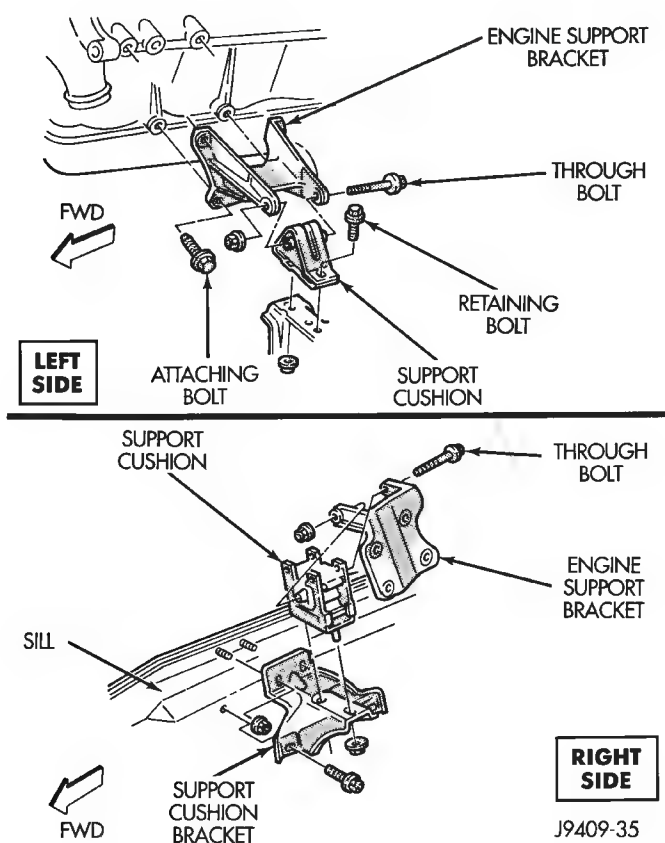
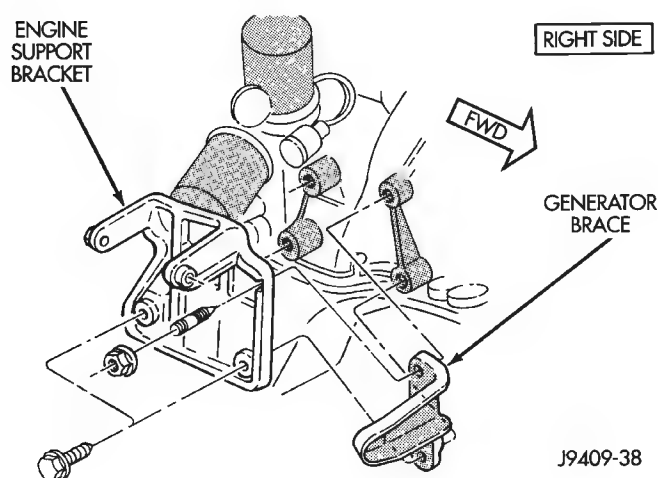

Fig. 6 Front Mounts—XJ Vehicles
Fig. 7 Engine Support Bracket—Right Side
- (1) Disconnect negative cable from battery.
- (2) Raise the vehicle.
- (3) Support the engine.
- (4) Remove through bolt nut (Fig. 6). DO NOT remove the through bolt.
- (5) Remove the retaining bolts and nuts from the support cushions (Fig. 6).
- (6) Remove the through bolt.
- (7) Remove the support cushions.
- (1) If the engine support bracket was removed, position the LEFT bracket (Fig. 6) and the RIGHT bracket with generator brace (Fig. 7) onto the cylinder block. Install the bolts and stud nuts.
(a) RIGHT SIDE (Fig. 7)—Tighten the bolts to 61 N·m (45 ft. lbs.) torque. Tighten the stud nuts to 46 N·m (34 ft. lbs.) torque.
(b) LEFT SIDE (Fig. 6)—Tighten the bolts to 61 N·m (45 ft. lbs.) torque.
- (2) If the support cushion brackets were removed, position the brackets onto the lower front sill (Figs. 6 and 8). Install the bolts and stud nuts. Tighten the bolts to 54 N·m (40 ft. lbs.) torque and the stud nuts to 41 N·m (30 ft. lbs.) torque.
- (3) Place the support cushions onto the support cushion brackets (Fig. 6). Tighten the right support cushion nuts to 65 N·m (48 ft. lbs.) torque. Tighten the left support cushion bolt and nut to 41 N·m (30 ft. lbs.) torque.
- (4) Install the through bolt and the retaining nut (Fig. 6). Tighten the through bolt nut to 65 N·m (48 ft. lbs.) torque.
- (5) Remove the engine support.
- (6) Lower the vehicle.
- (7) Connect negative cable to battery.